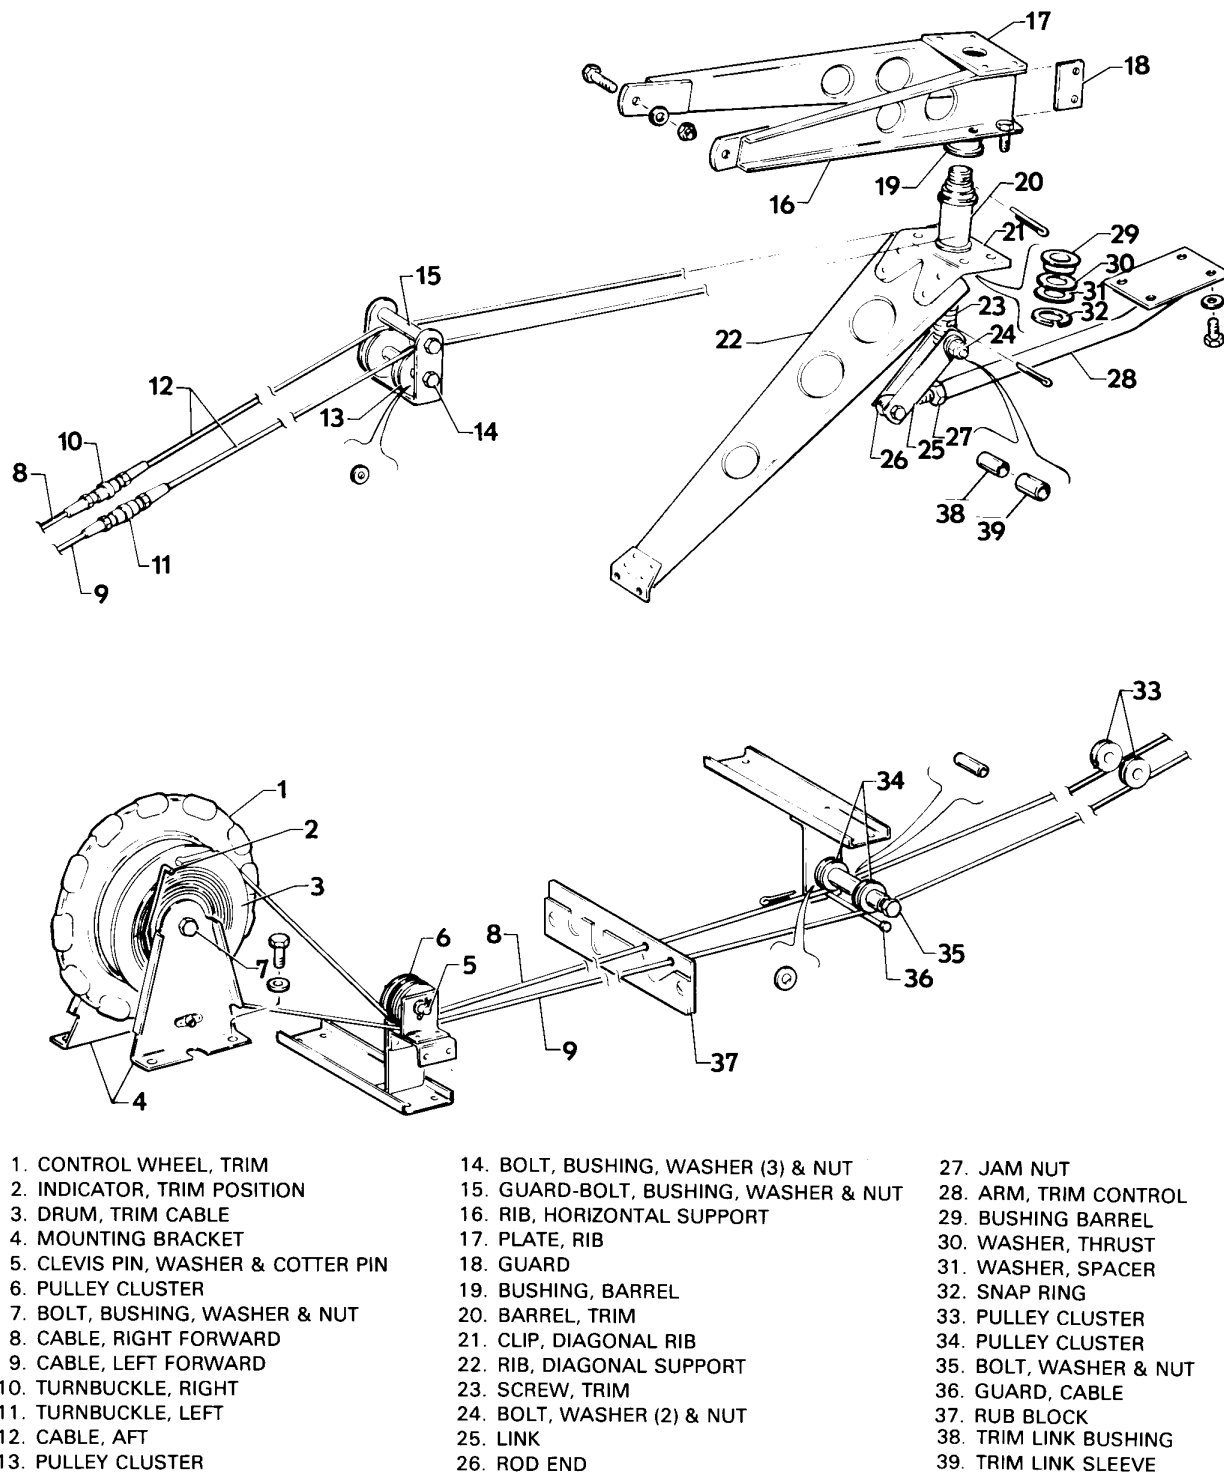
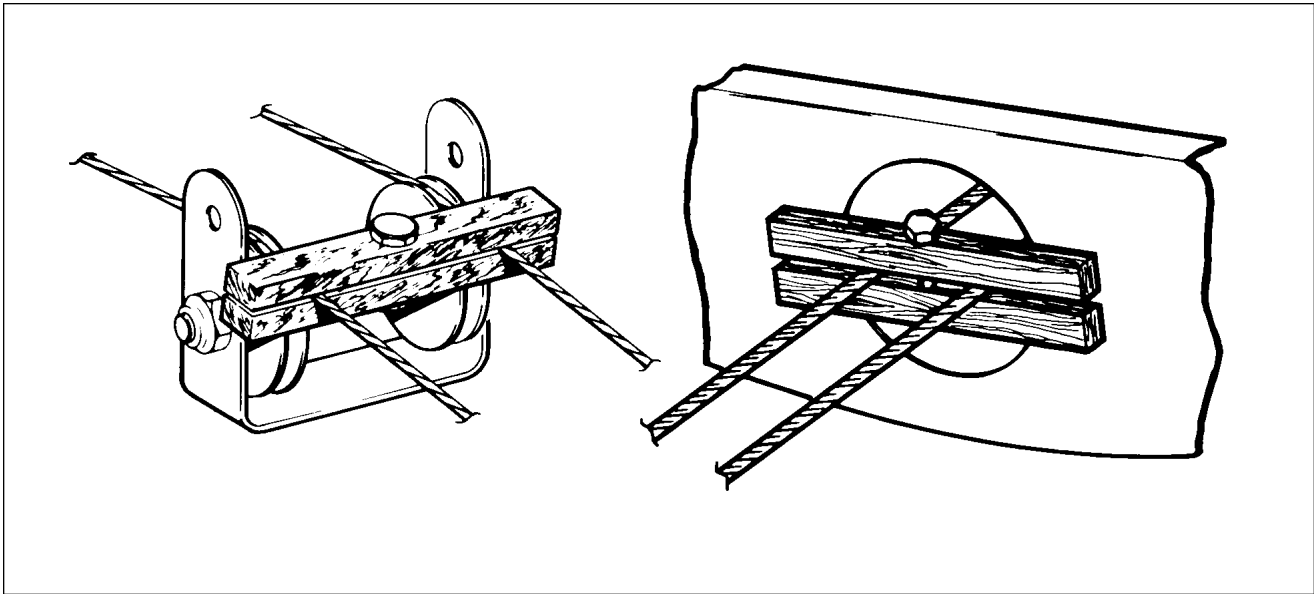

Figure 27-25. Stabilator Trim Control (Floor Control)
Figure 27-26. Methods of Securing Trim Cables
a. Removal Of Forward Stabilator Trim Assembly (Refer to Figure 27-25.)
- (1) To remove trim control wheel assembly and trim control cables, remove the panel to the aft section of airplane.
- (2) If aft trim cable is not to be removed, block cables at the pulleys in upper aft section of fuselage to prevent unwrapping from trim drum. (Refer to Figure 27-26.)
- (3) Loosen the cables if the trim control wheel is to be removed or disconnect if the cables are also to be removed. (Do this at the trim cable turnbuckles in the aft section of the fuselage.)
- (4) Remove control wheel and drum as follows:
- (5) Remove trim control cables as follows:
b. Installation Of *Forward* Stabilator Trim Assembly (Refer to Figure 27-25.)
- (1) Install trim control wheel with drum as follows:
- (3) Set cable tension and check rigging and adjustment per rigging and adjustment of stabilator trim. Check safety of all turnbuckles.
- (4) Install cable guard at underside of the pulleys aft of flap torque tube at station 127.25, and secure.
- (5) Install cable rub blocks on aft side of main spar housing and secure with screws.
- (6) Install tunnel cover on tunnel and secure with screws.
- (7) Install carpet over floor tunnel.
- (8) Install cover over trim control wheel and secure with screws and special washers.
- (9) Install floor panel and seat belt attachments aft of main spar and secure panel with screws.
- (10) Install panel to aft section of airplane and install seats.
c. Removal Of Aft Stabilator Trim Assembly (Refer to Figure 27-25.)
- (1) Remove access panel to aft section of fuselage.
- (2) Block trim cables at the first set of pulleys forward of cable turnbuckles in aft fuselage per Figure 27-26.
- (3) Disconnect cable at the turnbuckles in aft section of fuselage.
- (4) Remove tail cone attaching screws and remove tail cone.
- (5) Remove nut, washer, bolt, bushing, and sleeve connecting link to screw, and disconnect link between trim screw and trim control arm.
- (6) Remove cotter pin from top of screw, and turn screw down and out of barrel.
- (7) Remove snap ring, washer, and thrust washer from bottom of barrel.
- (8) Remove the four attaching nuts, washers, and bolts and disconnect the diagonal rib from horizontal rib that supports the trim assembly.
- (9) Pull trim cable from fuselage.
d. Installation of Aft Stabilator Trim Assembly (Refer to Figure 27-25.)
- (1) Wrap trim barrel as follows:
2. Rigging And Adjustment Of Stabilator Trim (Refer to Figure 27-25.)